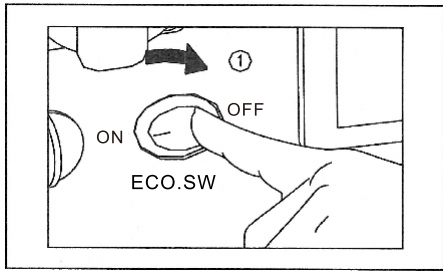

Fig. 4A
4. Put the ECO. switch to “OFF” position (Fig. 4A)